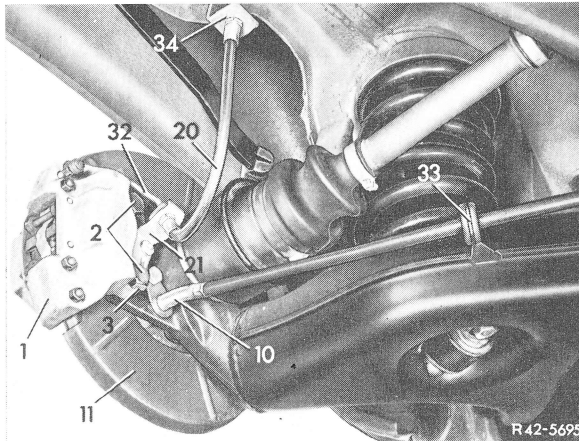

Fig. 4
2 Unbend lock plate (3) and unscrew hex. screws (2). Remove caliper and attach together with brake hose and a suitable hook to torsion bar (Fig. 4 to 6).